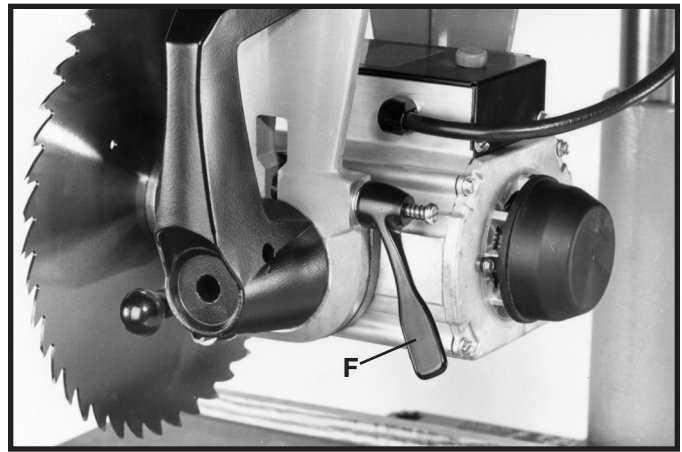

Fig. 46
7. When the adjustment is made, turn the bevel clamp handle (F) Fig. 46, counterclockwise to lock the motor in position. **NOTE:** If the bevel clamp handle (F) does not completely lock the motor, the clamp handle can be repositioned by pulling out the handle and repositioning it on the serrated nut located under the handle.